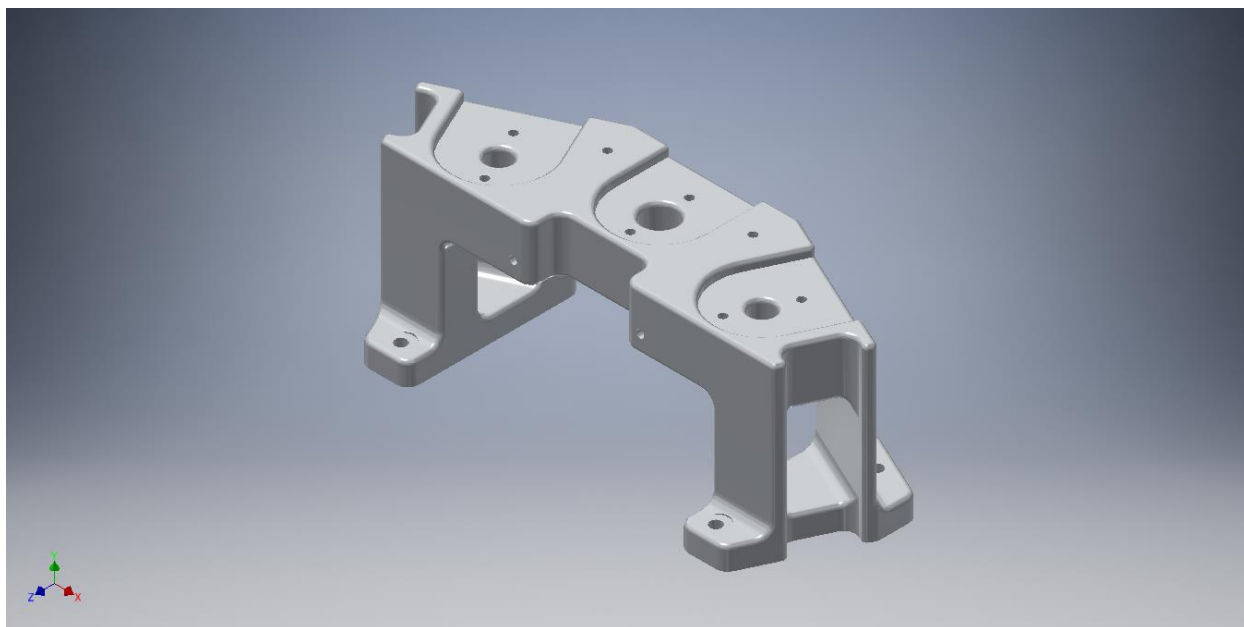

Figure 8 Ultrasound (US) Tower
7. Flip the tire over. It should look something like Figure 8.